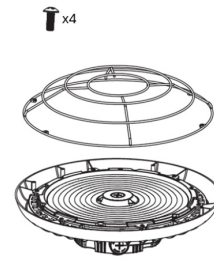

Fig. 22
2. Affix the Reflector with the 4 screws provided with the Wire Guard. (Fig. 22 and 23)